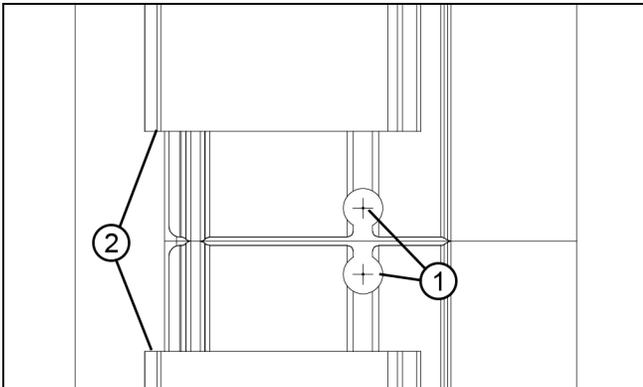

Figure 8
3. Drill outer edges of nailing fin/drip cap kerfs at head jamb mullion with a 3/16" (5) drill bit as shown in Figure 8. Clean filings from the drilled area to ensure easy installation of mull pin.